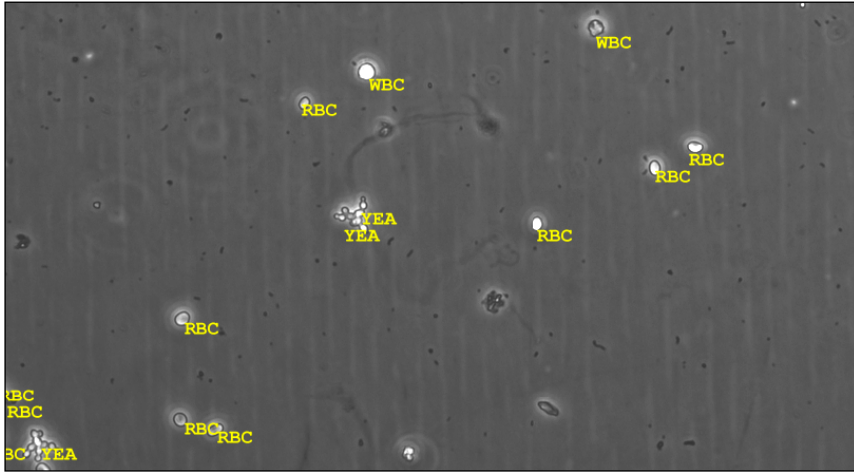

Figure 19. *Automatically evaluated and tagged view field image of a Normal image*
- Viewfield images that are not crowded with particles are, regardless of whether they are negative or pathological, considered **Normal** (see Figure 19)—they have **No** in their **For review** column in the **Image List**. The majority of viewfield images are of this type.